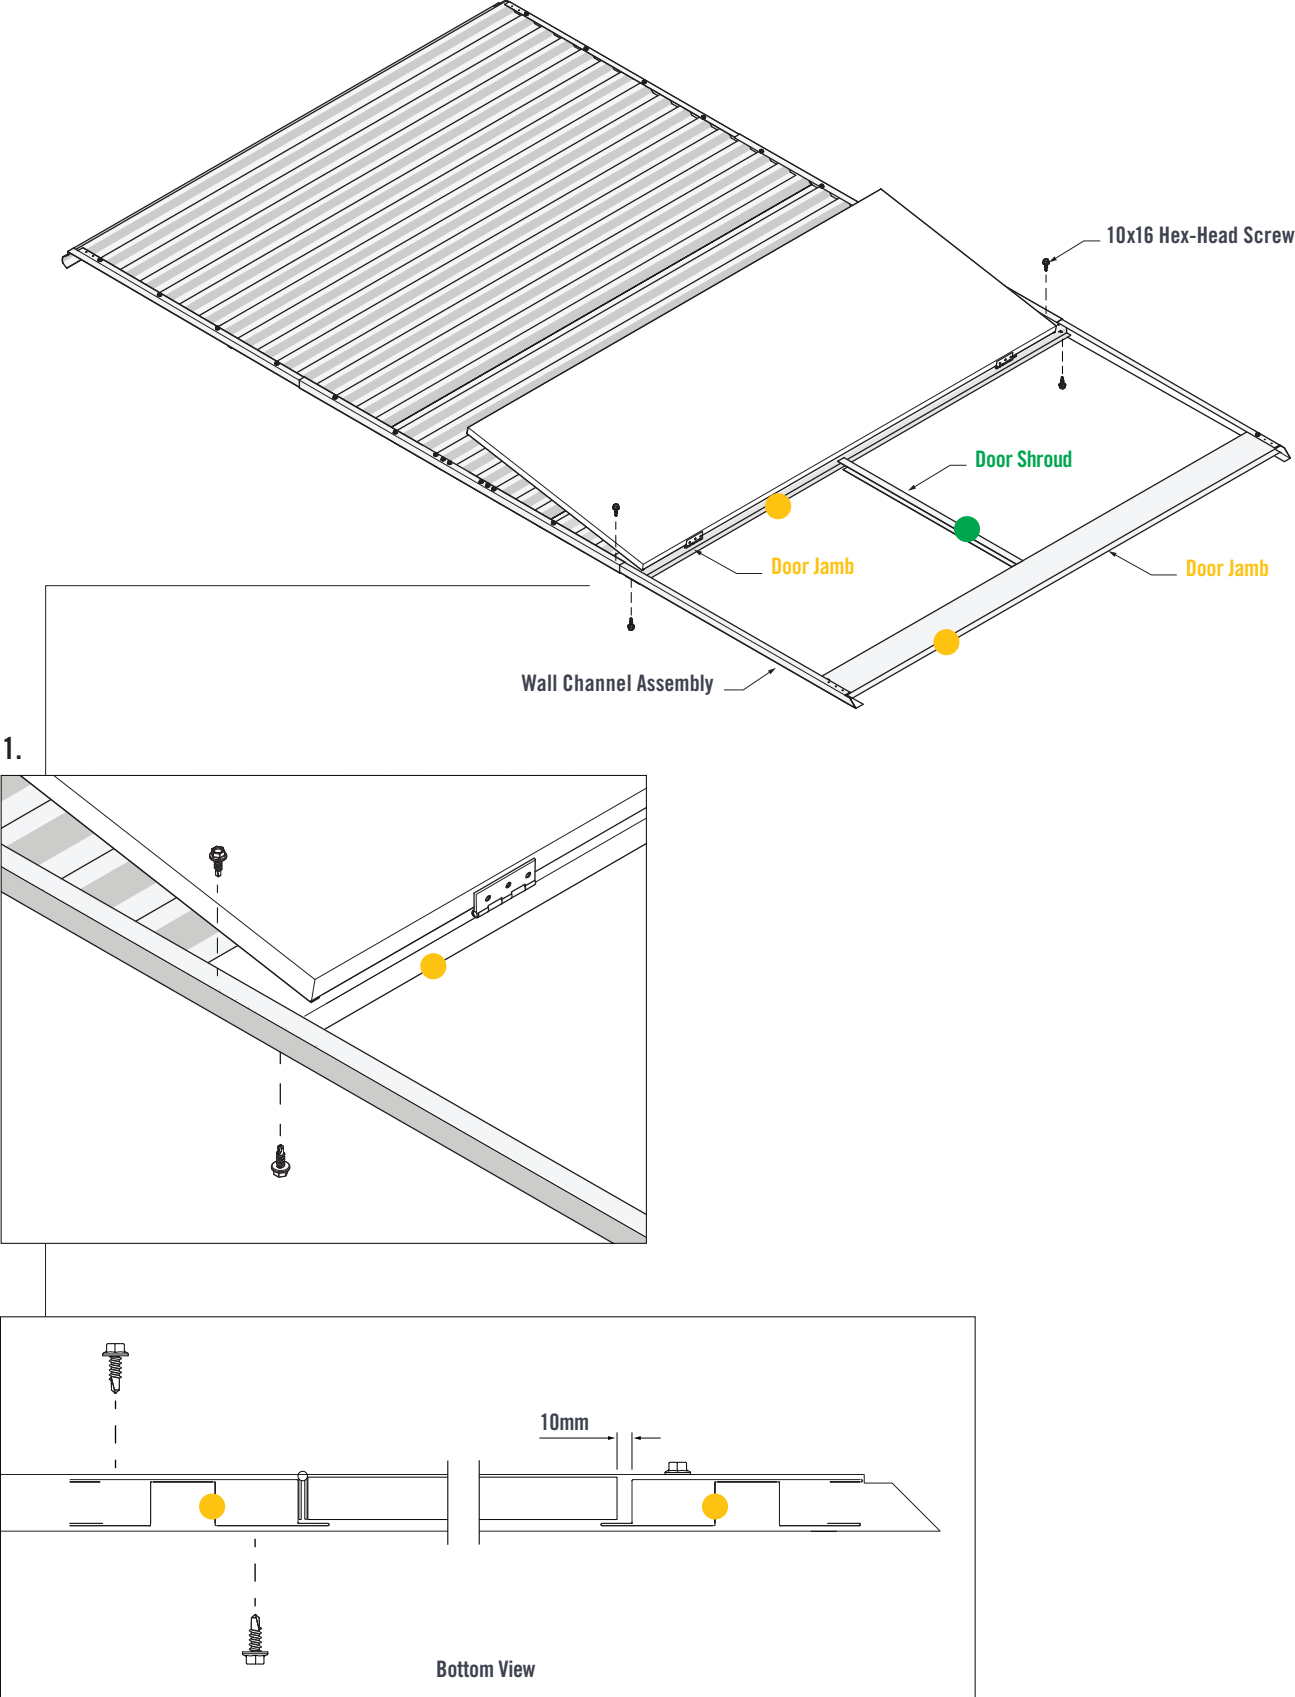

FIGURE 5.3
With the Door open, fit the Door Shroud in-between the Door Jambs. Use the Door Shroud as a guide to set the correct spacing between the Door Jambs (Figure 5.3).
1. Fasten two 10x16 self-drilling screws through both Wall Channels and into the Door Jamb. Close the Door and ensure an approximate 10mm gap between the edge of the Door and end Door Jamb (Figure 5.3).